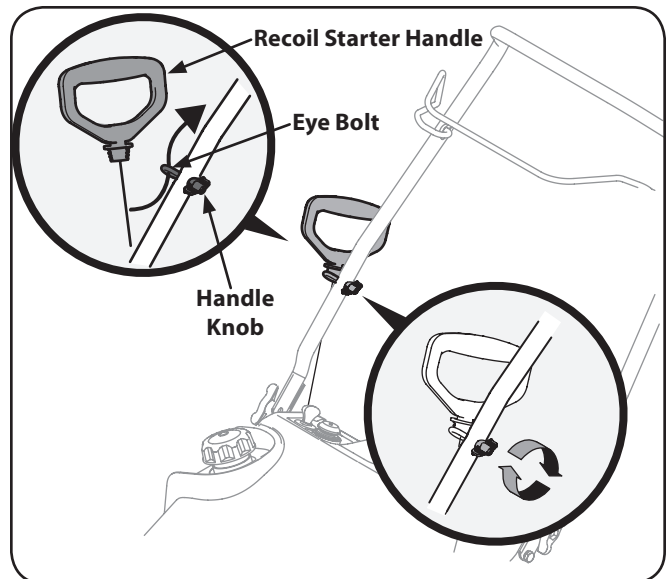

Figure 3-6
2. Place the eye bolt and handle knob on the upper handle as shown in Fig. 3-6. Do not fully tighten the hardware until instructed to do so.
4. Slip the recoil starter rope into the eye bolt from the back side of the snow thrower. See Fig. 3-6.